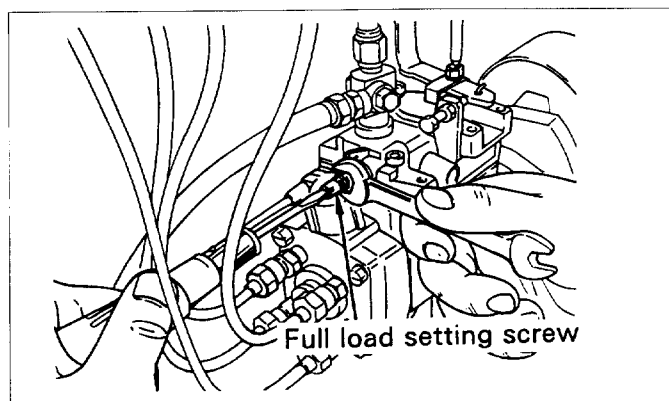

Fig.15-19 Fixing the adjusting lever at full load position
(1) Full load fuel is adjusted by turning the full load setting screw in, to increase the full load quantity, and out, to reduce the full load fuel quantity. (See Fig.15-19)
(2) If the variation of fuel delivery between cylinders (spread) is greater than the value shown on the test specification, the fault will be in the delivery valve ②②, the delivery valve spring ②③, delivery valve spring shim ②⑤, delivery valve gasket ②④, or possibly the delivery valve holder or snubber valve.